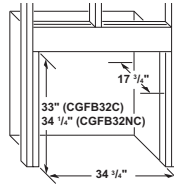
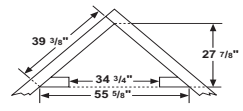

Figure 17 - Rough Opening for Installing in Wall
Figure 18 - Rough Opening for Installing in Corner
1. Frame in rough opening. Use dimensions shown in Figure 17 for the rough opening. If installing in a corner, use dimensions shown in Figure 18 for the rough opening. The height is 33", which is the same as the wall opening in Figure 17.